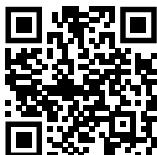

Fig. 154
- Отворете Liebherr SmartMonitoring Dashboard. (вжк Fig. 154)